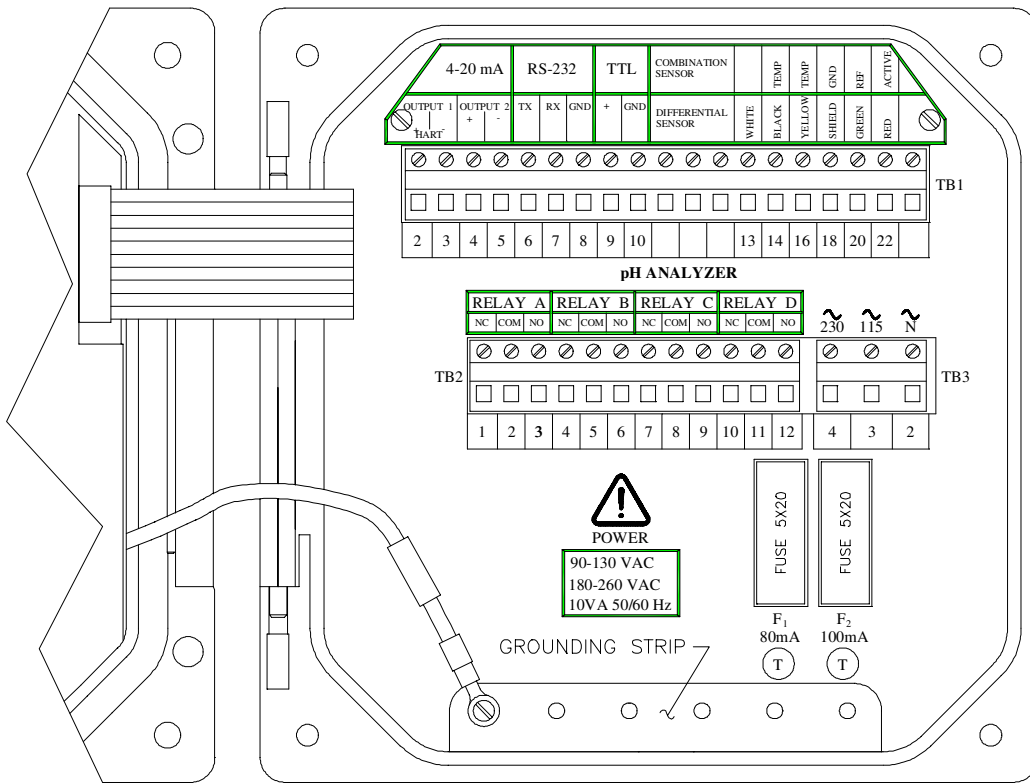

FIGURE 2-3 Terminal Designations for Analyzers with "B" Prefix Serial Number
To access terminals for electrical connections, open the left-hinged enclosure door by unscrewing the four fasteners. Figure 2-3 or 2-4 shows the terminal arrangement and their designations.
- The grounding strip at bottom of case (5 open holes, Fig. 2-3) for analyzers with “B” prefix serial number.